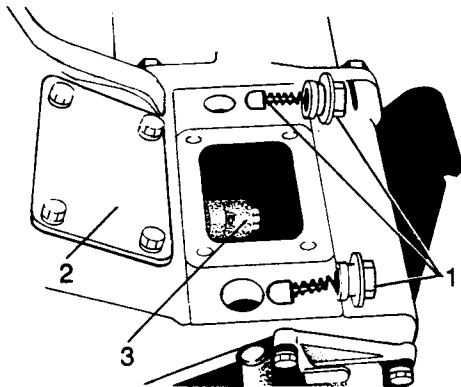

Fig H1.87
- (2) Refer to Fig H1.87. Remove the two plugs, springs and dowels (1) from the high and low selector. (Note that only one dowel and spring is fitted on later models).
- (3) Remove the fixing elements from the upper access cover (2) to the selector fork and remove the cover together with its washer.
- (4) Remove the bolt that fixes the high and low selector fork to the shaft (3).